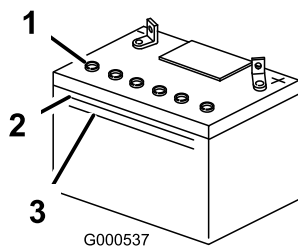

Figure 42
3. Look at the side of the battery. The electrolyte must be up to the **upper** line (Figure 42). Do not allow the electrolyte to fall below the Lower line (Figure 42).
5. Remove the vent caps from the battery (Figure 42).
6. Slowly pour distilled water into each battery cell until the electrolyte level is up to the Upper line (Figure 42) on the battery case.
7. Wait 5 to 10 minutes after filling the battery cells. Add distilled water, if necessary, until the electrolyte level is up to the Upper line (Figure 42) on the battery case.